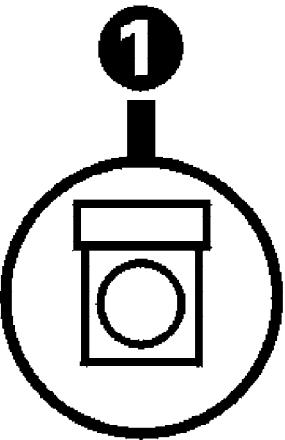
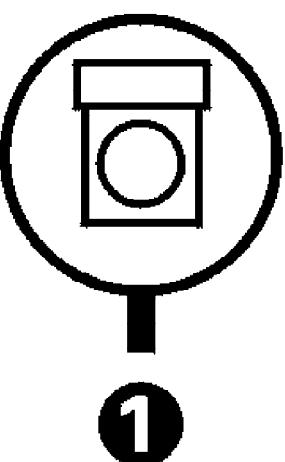

Fig. 3a
Fig. 4a
(Display Figures 3a, 3b, 3c, 4a, 4b, & 4c of Wedge Placement Graphic)
3. Tilt the yoke up and down to converge the red and blue vertical lines at the 6:00 and 12:00 positions and the red and blue horizontal lines at the 3:00 and 9:00 positions (refer to Figure 5). When the correct position has been found, place a rubber wedge between the yoke and the CRT. If the yoke is tilted up, place wedge one as shown in Figure 3a; if it is tilted down, place wedge one as shown in Figure 4a.